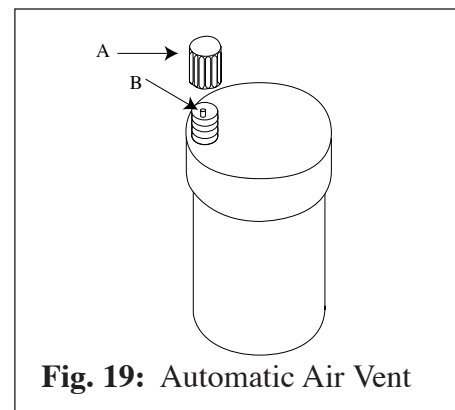

Fig. 19: Automatic Air Vent
3. Allow air to escape from outer (boiler water) tank by opening vent cap A on automatic air vent, located on top of water heater. See Fig. 19.
5. When tank is full, air will stop escaping, and the automatic air vent will close. If air vent does not seat properly (water leaks out), remove cap A. Briefly push in valve B and release it to clean valve seat. Screw cap A on completely, then unscrew one turn. See Fig. 19.